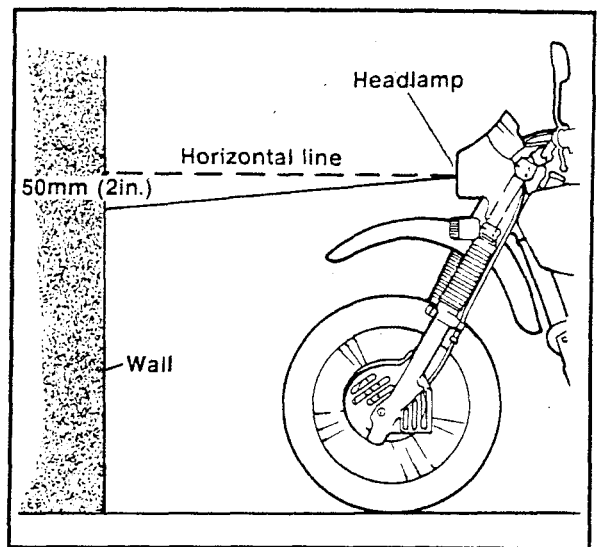

Figure 4-25. Adjust Headlamp Beam
2. See Figure 4-25. Draw a horizontal line on the wall that is the same height as the horizontal center of the vehicle headlamp. Adjust beam with the driver in a riding position and the headlamp on high beam. The setting is correct when the center of the beam is the same as the horizontal line (on the wall).